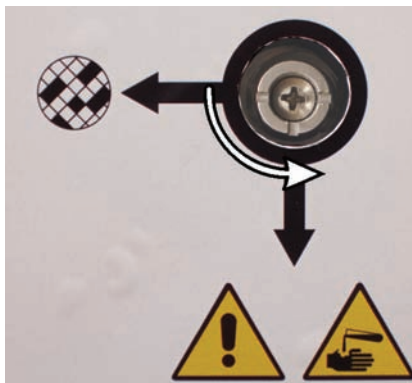

Figure 27: Vapor select valve in the external system position
2. Turn the vapor select valve anticlockwise to direct vapors to the vapor outlet (see Figure 27).
2. Turn the vapor select valve clockwise to direct the vapors to the internal carbon filter (see Figure 27).